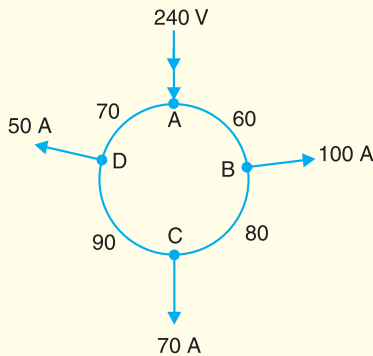

Fig. 13.45
1. A 300 m ring distributor has loads as shown in Fig. 13.45 where distances are in metres. The resistance of each conductor is 0.2 W per 1000 metres and the loads are tapped off at points  $B, C$  and  $D$  as shown. If the distributor is fed at  $A$  at 240 V, find voltages at  $B, C$  and  $D$ .